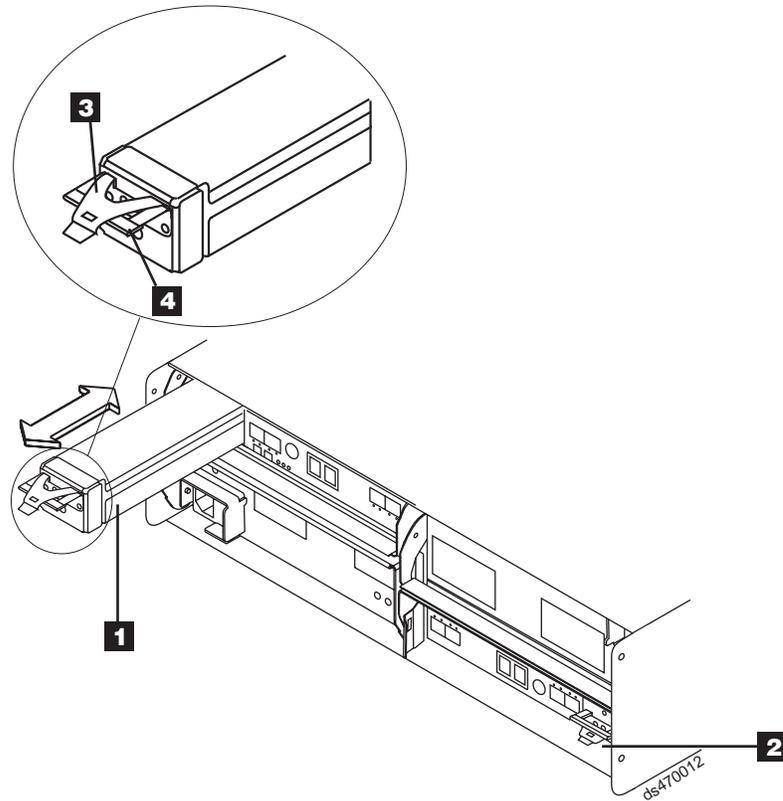

Figure 78. Removing and replacing a battery unit from the controller chassis
5. To remove the failed battery unit from the RAID controller, press the battery unit latch (the coral colored tab **3**) toward the black colored battery pull handle (**4**) to unlatch the battery from the DS4200 Express chassis and slowly pull the battery unit from the controller chassis using the black handle, as shown in Figure 78 on page 129.